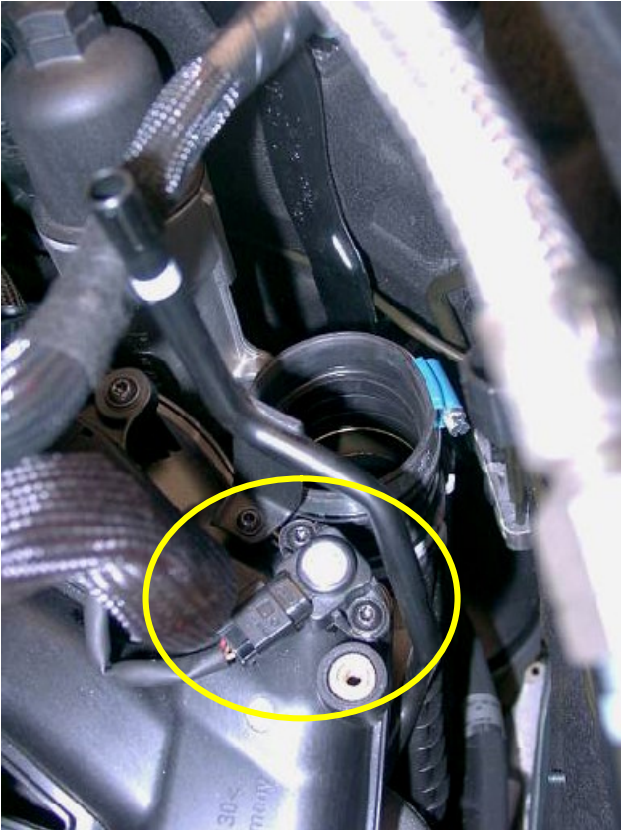

Fig 1: Location of the MAP sensor
2. The O.E. fastener is replaced with 051 112 0451 as show in fig.1
3. The K-BOX is mounted in the fuse box located on the left side of the car (driving side). fig.1.a